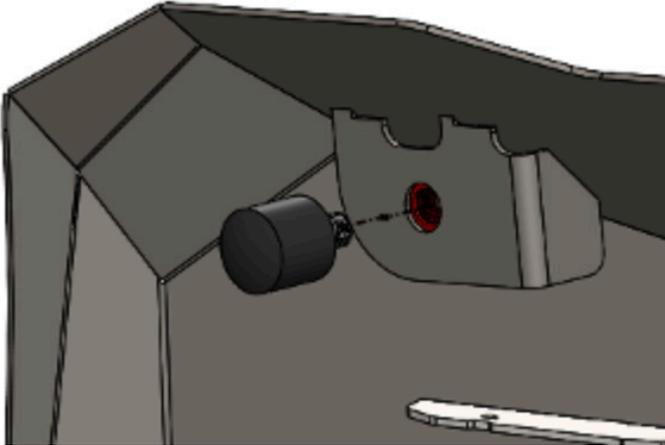

Figure 18
15. Install the two 1/2" rubber bump stop studs (61720) into the top of the vicowl. Figure 18.